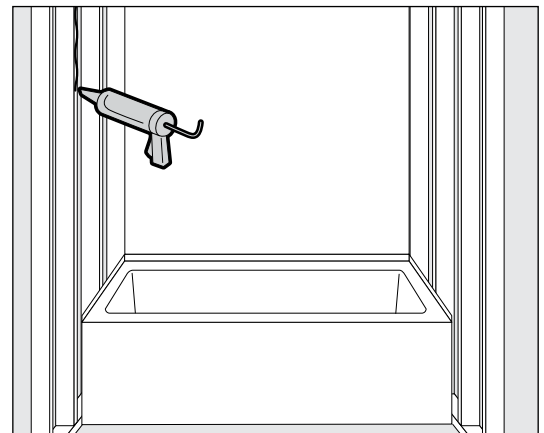

FIGURE 8. Apply adhesive.
- d. Apply adhesive to studs for faucet side panel and install side panel. (Fig. 8)